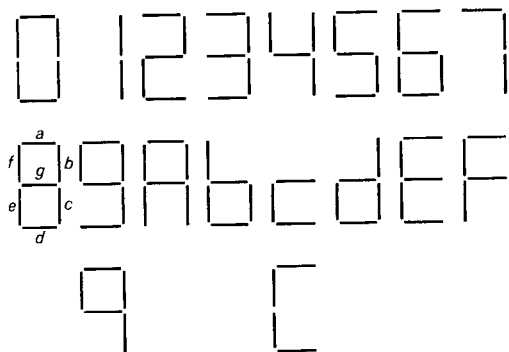

Figure 8.76. 7-segment display codes.
The inputs are the individual segment signals, which are always labeled $a-g$; see Figure 8.76, which also shows how the digits A-F are represented with 7-segment displays. Note that it is possible to represent 9 and C in two ways, both of which should be correctly recognized by our logic. For the PAL, we choose a 16L8,
Figure 8.77 is the input to CUPL. We assigned the (positive-true) segment drive signals $a-g$ as inputs, and the (negative-true) hexadecimal bits D0-D3 as outputs. CUPL lets you define intermediate variables that can be used in later expressions; in this case it is convenient to define the obvious variables *zero* through *hexf*, the possible displayed digits in terms of the segment inputs. These are simply large product (AND) terms of the input segment variables, which you can read from the digit shapes in Figure 8.76. Finally, each binary output bit is written as the sum (OR) of the digit variables in which that bit is set. We've used negative-true levels because the 16L8 is an AND-NOR array, thus minimizing logic. This completes the logic specification to CUPL.